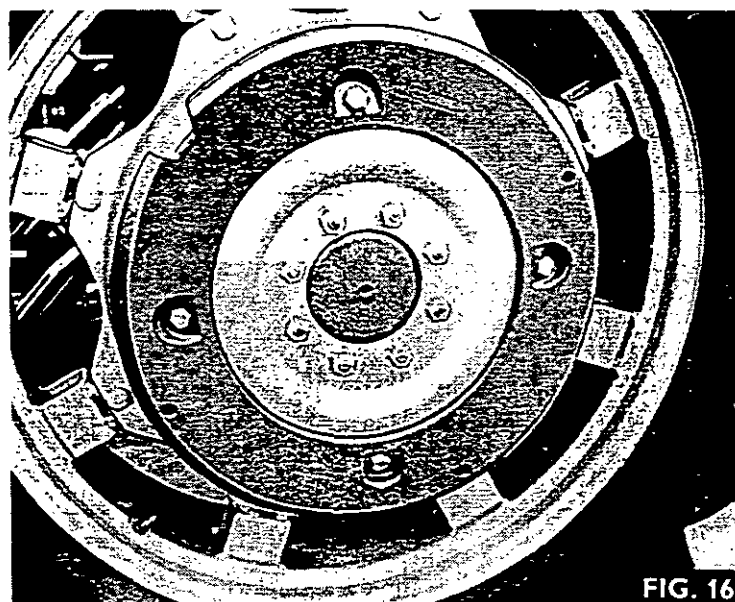

FIG. 16
4. Fig. 16. Fit the four bolts, spring washers and nuts.